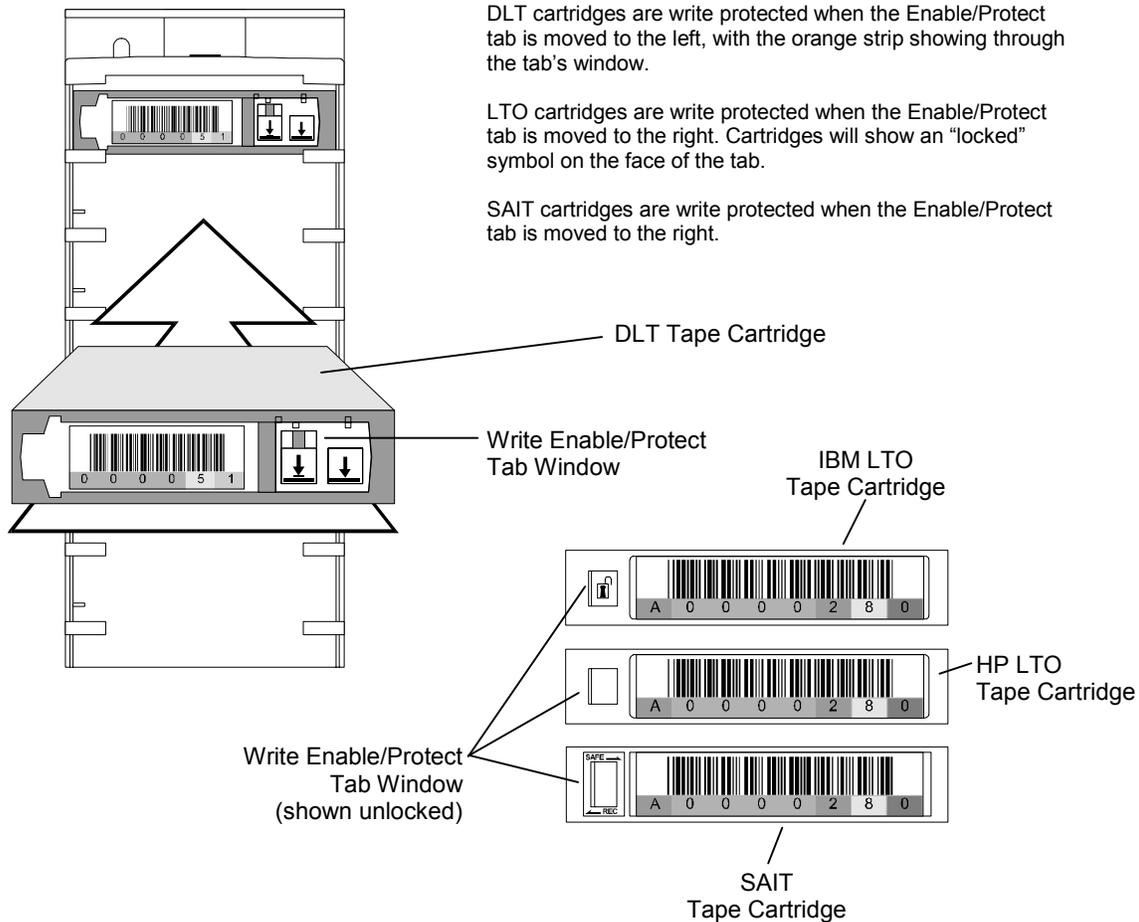
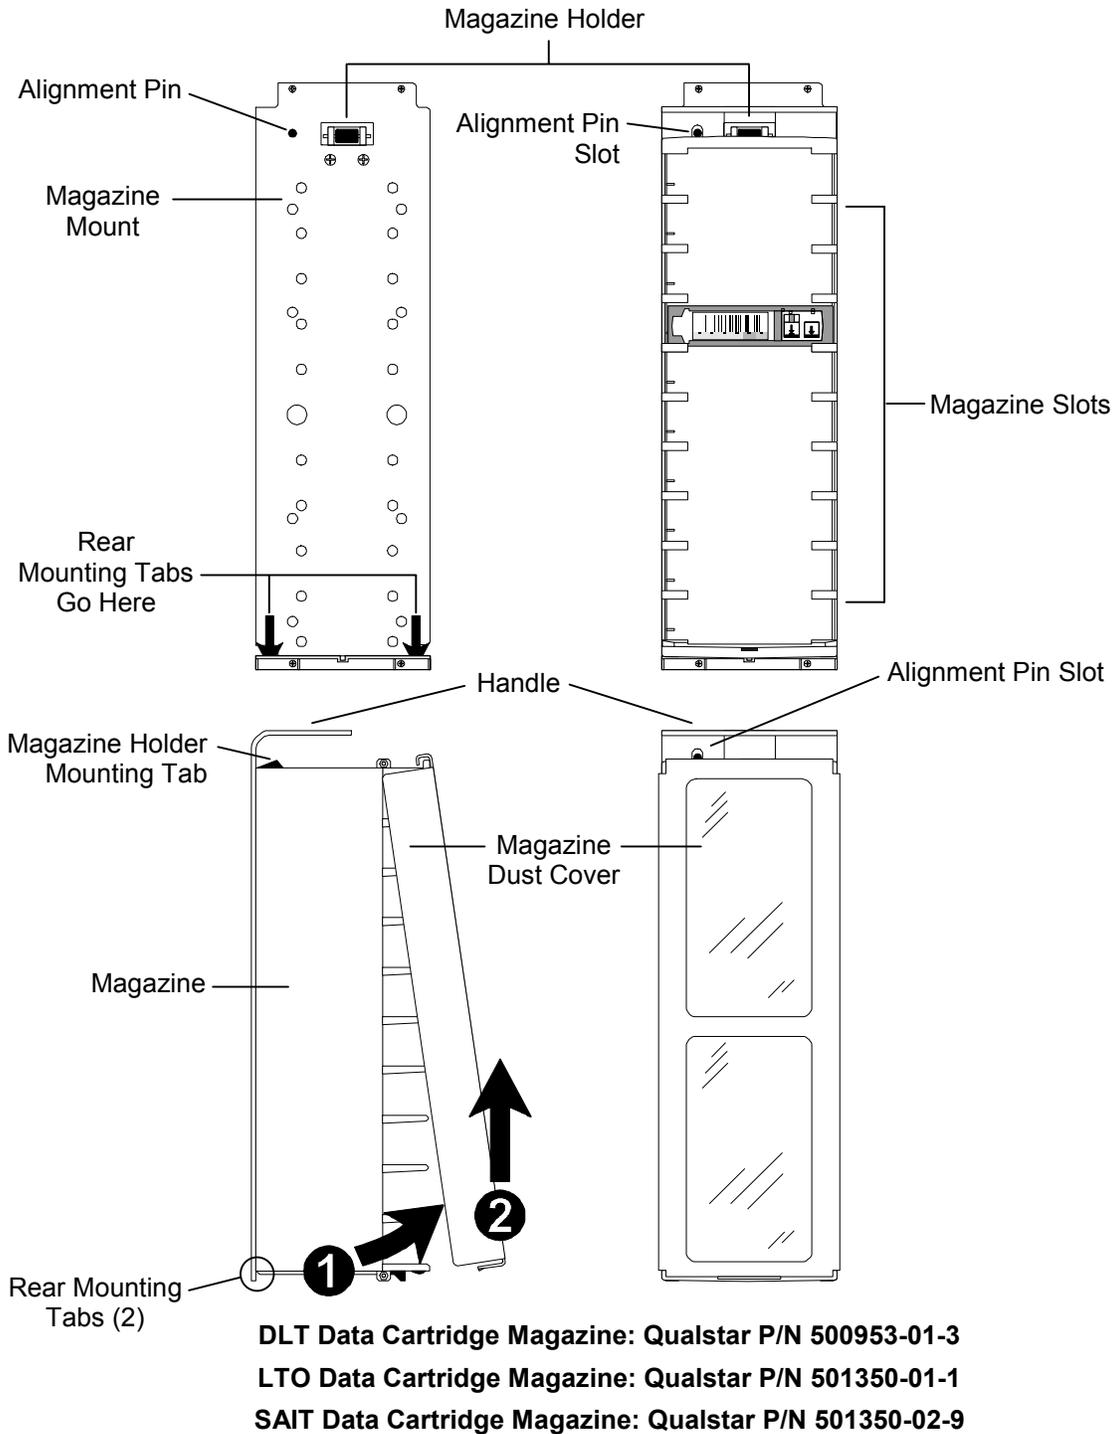

Figure 5-32 Loading a Cartridge Magazine (DLT magazine shown)
Figure 5-33 Magazine and Magazine Mount (DLT model shown)
1. Make certain that the Write Enable/Protect tab is set correctly for the intended use (see Figure 5-32). Write must be enabled for backup operations. Refer to Figure 5-33 to determine the correct orientation of the magazine.
Refer to Figure 5-33 for this procedure.